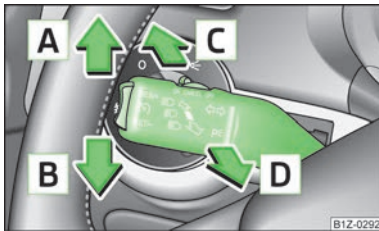

Fig. 28
- Push the lever upwards **A** » Fig. 28 or downwards **B**.